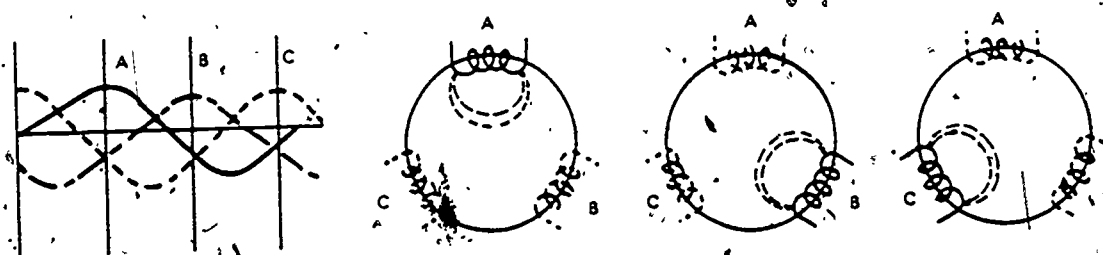

Figure 4. Rotating Magnetic Field
(1) the difference in amount of current flow in the 3 $\phi$  power caused by the characteristics of 3 $\phi$  voltage generation, (2) reversal in direction of current flow caused by the characteristics of ac voltage, and (3) the arrangement of the field windings in the stator core to accomplish an even spread of magnetic field around the stator. The rotating magnetic field is set up by the rising and falling current in the stator windings. When the current reaches its maximum value in one winding, a strong magnetic field is produced by the winding. As the current in the first winding decreases, the current in the next winding increases, causing the magnetic field to move to that winding. As the current decreases in the second winding, it increases in the third winding, causing the magnetic field to move again. The windings are distributed so that this rotation of the magnetic field is uniform and continuous. See Figure 4.